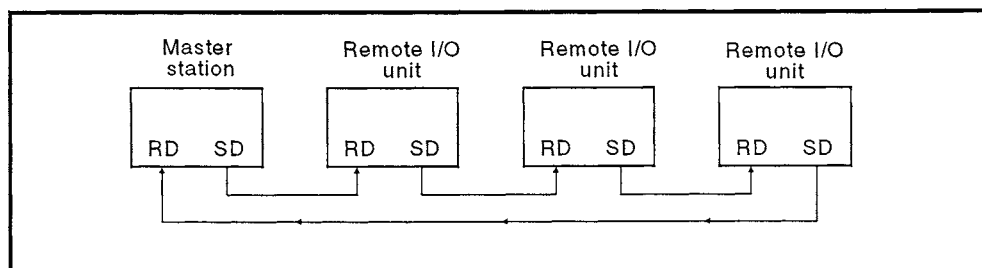

Fig. 4.4 Connection of Optical Fiber Cables
- (1) Connect the optical fiber cables as shown in Fig. 4.4.